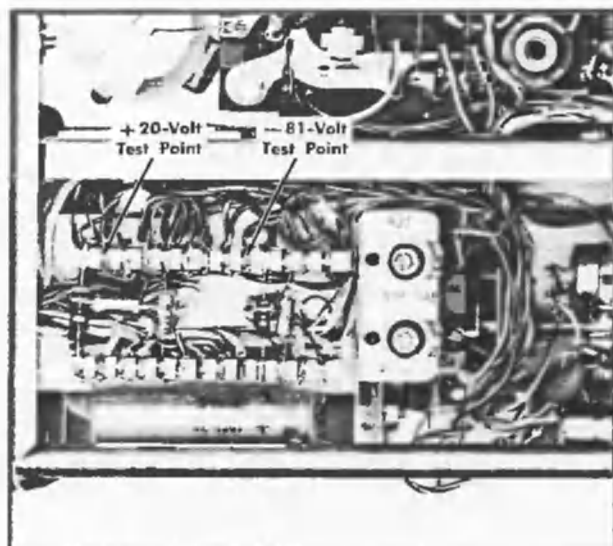

Fig. 6-4. Location of power-supply test points (left side).
- b. Connect the DC voltmeter from the —81-volt test point (see Fig. 6-4) to chassis ground.
- d. Connect the DC voltmeter from the +20-volt test point (see Fig. 6-4) to chassis ground.
- Connect the probe tip to the —81-volt test point (see Fig. 6-4).
- Connect the probe tip to the +20 volt test point (see Fig. 6-4).